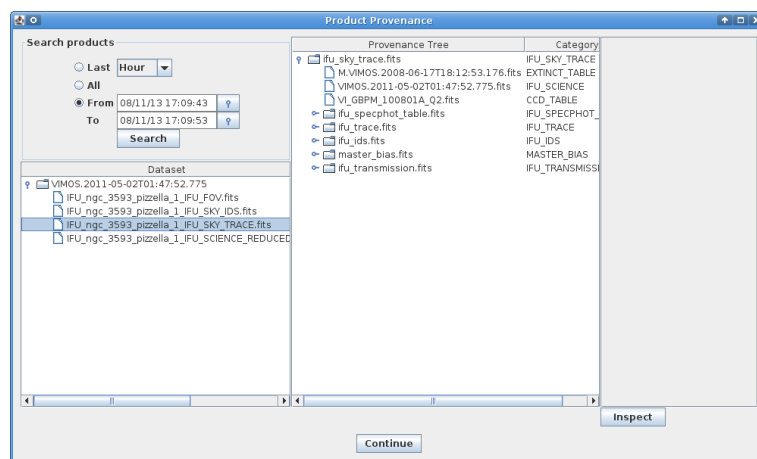

Figure 4.4: The Product Explorer shows all datasets reduced in previous executions together with the full reduction chain for all the pipeline products.
9. Once the reduction of all `DataSets` has finished, a pop-up window called *Product Explorer* will appear, showing the datasets which have been reduced together with the list of final products. This actor allows the user to inspect the final data products, as well as to search and inspect the input data used to create any of the products of the workflow. Figure 4.4 shows the *Product Explorer* window.